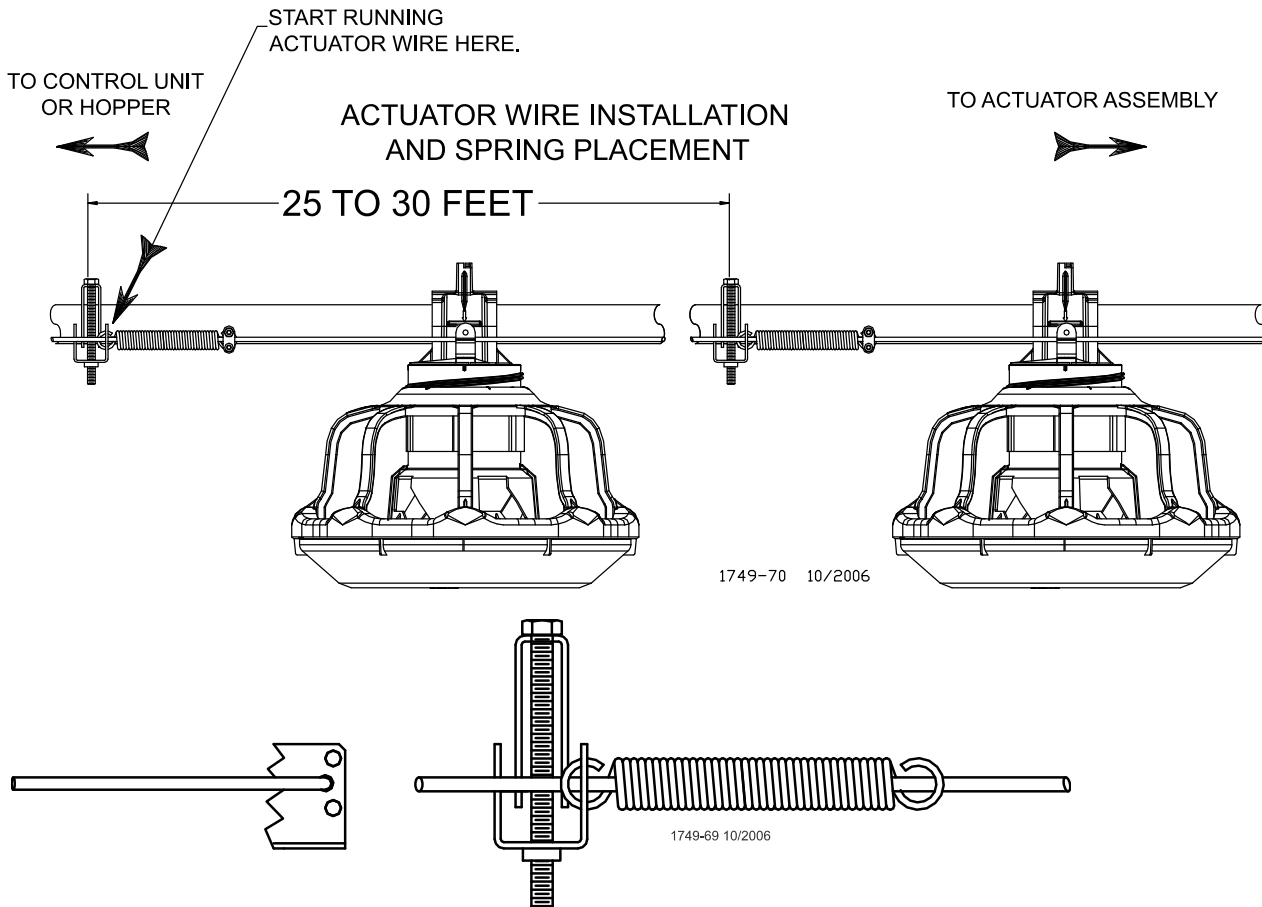

Figure 44. Installing actuator wire
1. Beginning at the terminal spring bracket or if a pusher pan is used start at that spring bracket. Slide the end of the actuator wire through the two holes in the bracket and through the center of the end spring, **see figure 44**